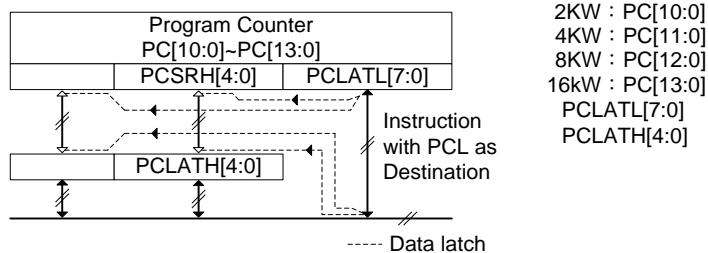

Figure 2-2 Program Counter Architecture
Program Counter (PC) includes shift register PCSR and buffer register PCLAT, as Figure 2-2 implicated.